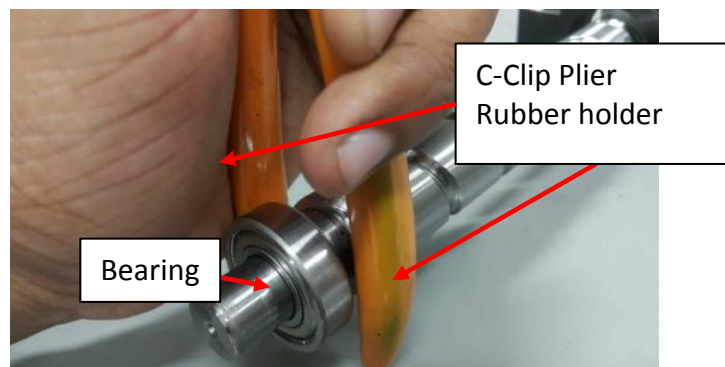
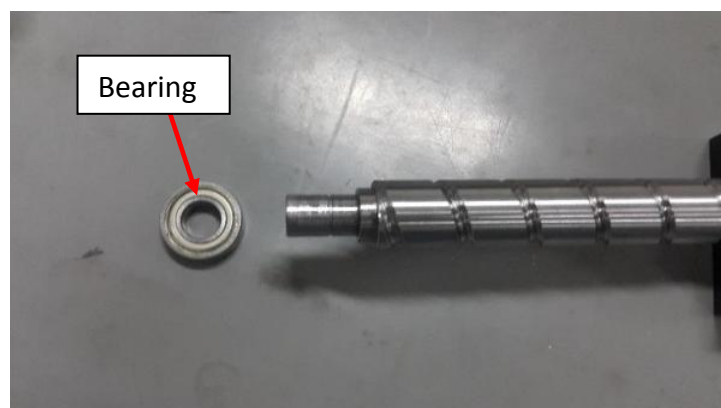

Figure 19 End bearing
Figure 21 Bearing removal [COMPLETE]
22. By using Plier rubber holder and gently remove the bearing as shown in Figure 19 to Figure 21.